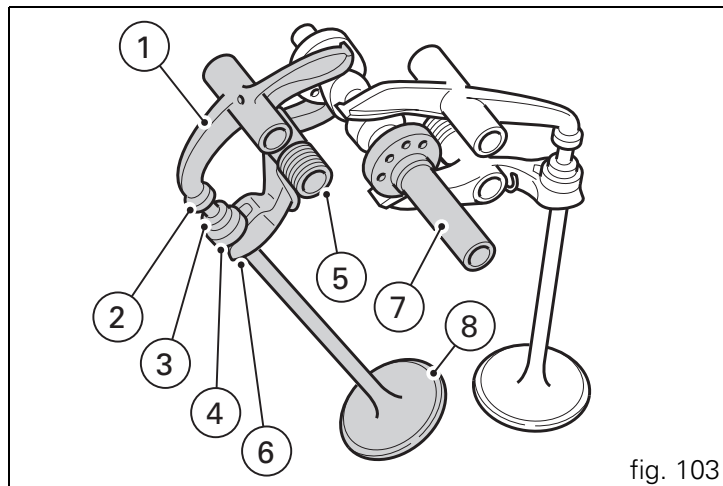

fig. 103
**Desmodromic timing system** (fig. 103)